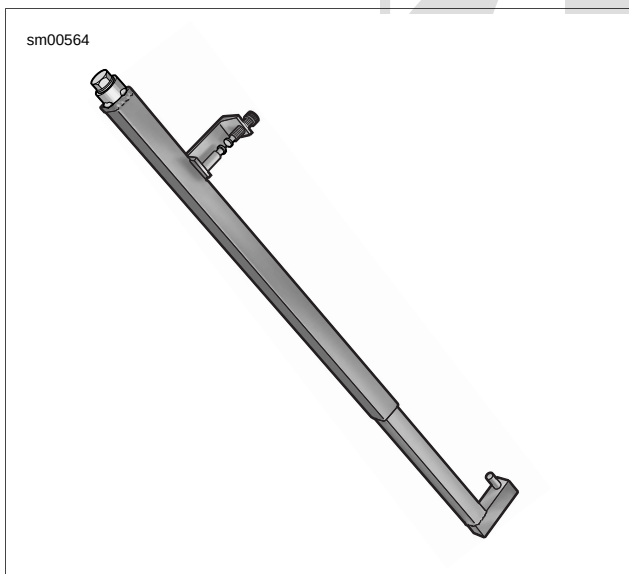

Figure 2-77. Front Fork Compressor
6. See Figure 2-77. Move the fork assembly from the holding tool and compress fork in the FORK SPRING COMPRESSOR (Part No. HD-45966).
8. Remove preload washer (4) and slider piston (5).
9. See Figure 2-77. Expand fork and remove from FORK SPRING COMPRESSOR.